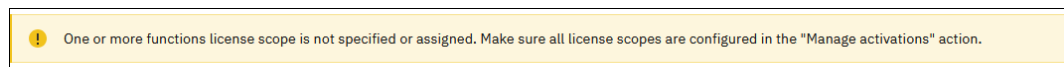

Figure 7-15 Warning when license scopes are unassigned
- The View machine summary window shows the total purchased licenses and the number of licenses that are currently assigned. When you assign licenses for the first time, the Assigned field might show 0.0 TB, or the results might show a yellow warning message for unassigned license scopes as shown in Figure 7-15.